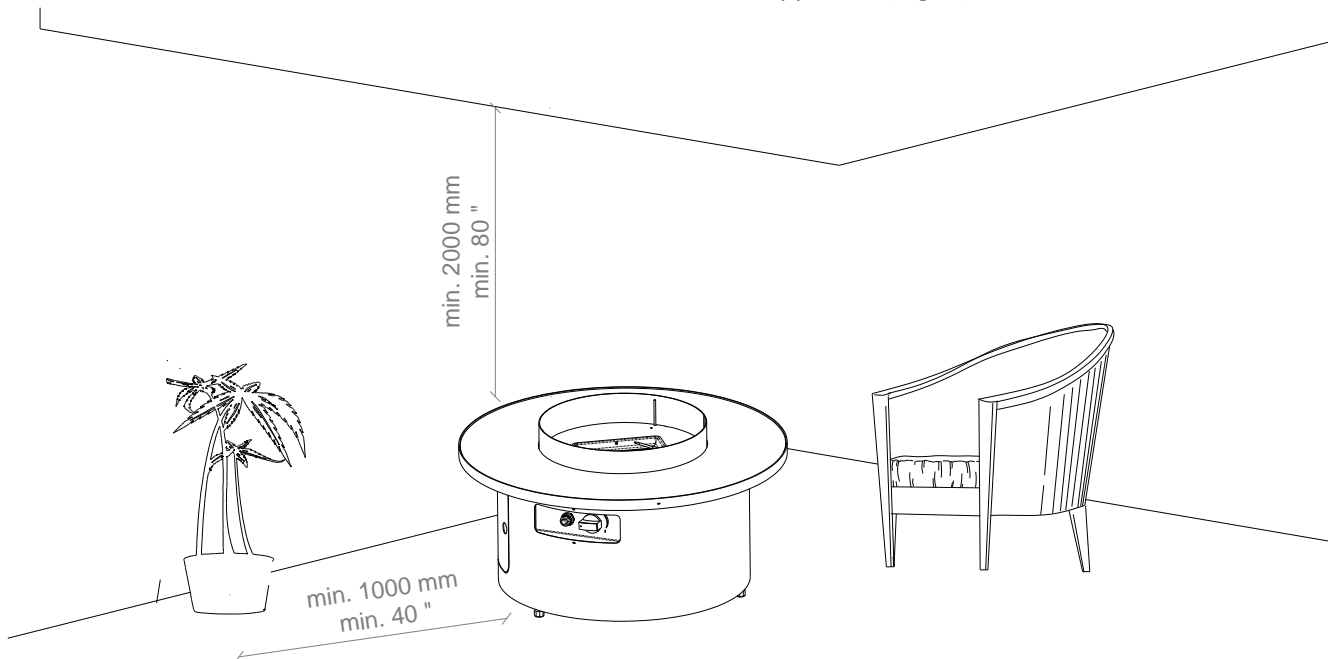

Fig. 1: Minimum distance to flammable materials
- This appliance must be kept away from flammable materials during use. Do not place any combustible materials within a distance of 1 m of Dot and 2 m over the appliance (Fig. 1).